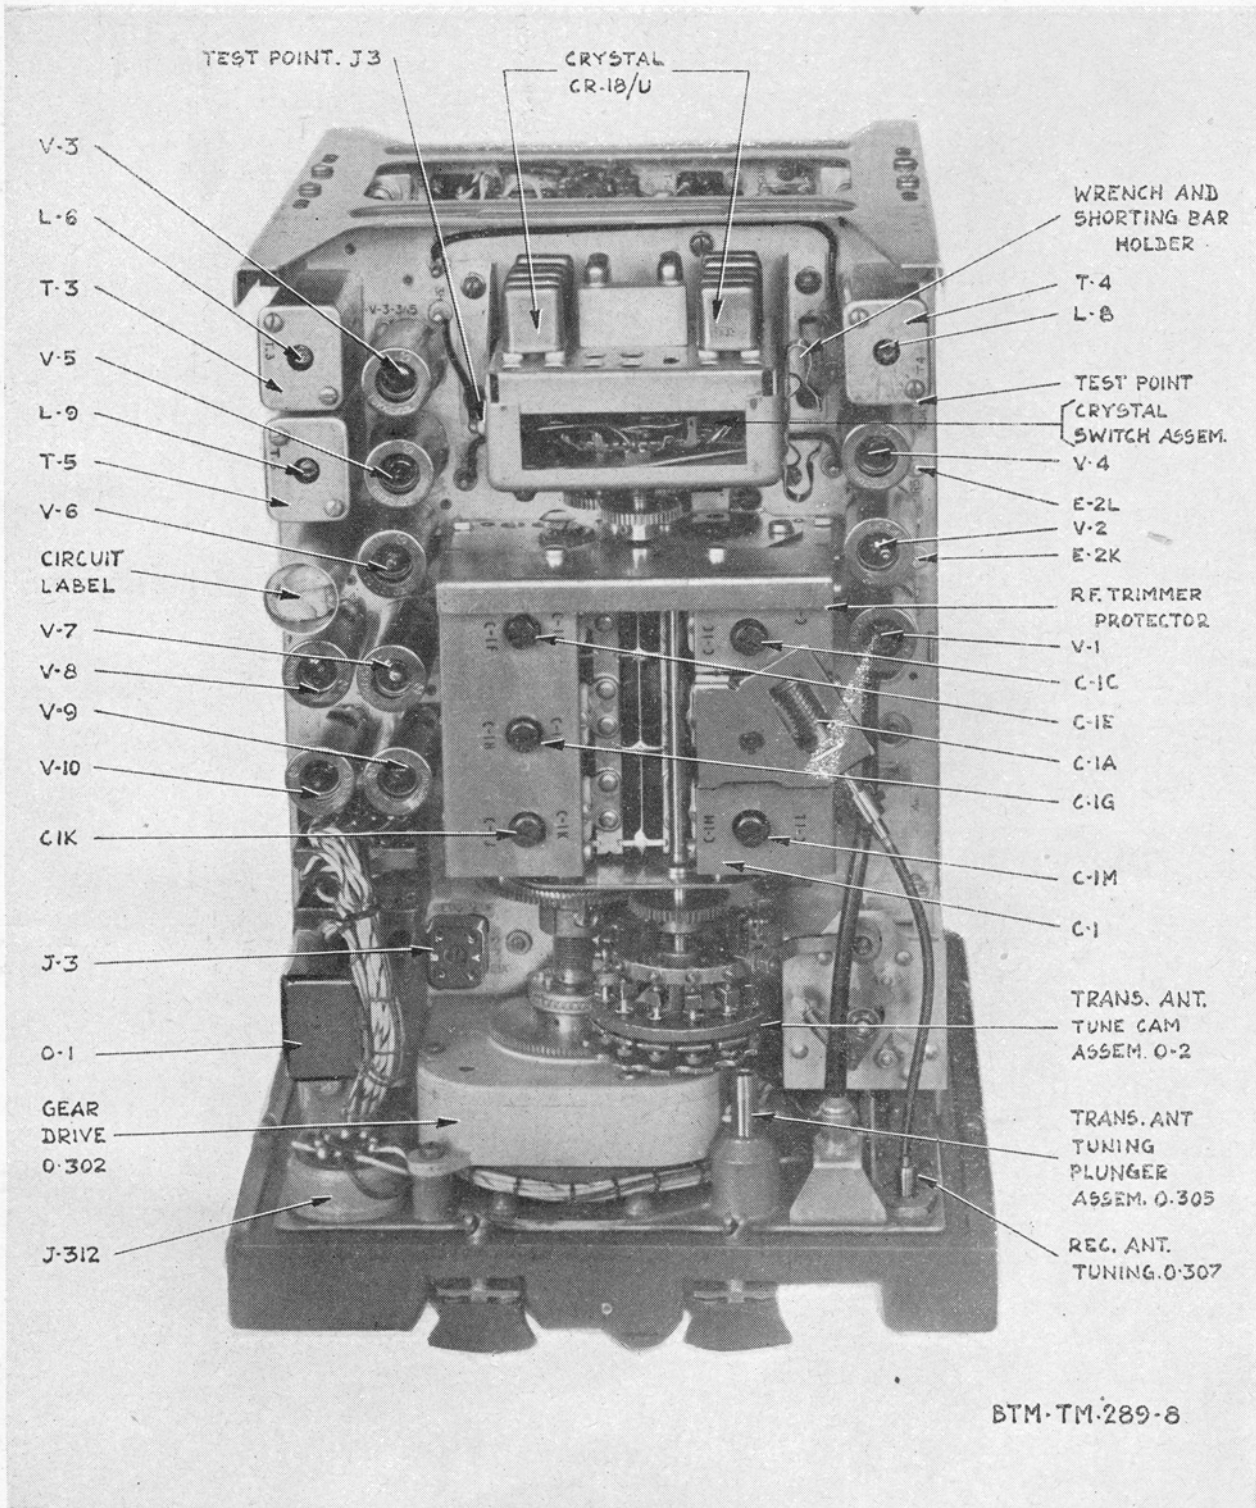

Figure 5. Typical receiver-transmitter, case removed, view of r-f chassis (left side of panel and chassis assembly).
- (2) The r-f chassis of the three receiver-transmitters are similar in structure and component arrangement. There are some differences, however, mainly in the inductances of the tuning coils and in the number of frequency-determining crystals required. Thus, these chassis are not interchangeable from one set to another. Figure 5 shows the component side of the r-f chassis. Also refer to figures 36, 37, and 38. The r-f chassis mounts the h-f components of both the receiver and the transmitter, the crystal oscillator-harmonic generator circuit components, including tuning capacitors, crystals, the crystal switch assembly, and associated parts. The worm gear assembly (fig. 5) is connected by means of a flexible coupling to the receiver antenna tuning control, marked REC ANT TUNE on the panel. The cam assembly is actuated by the main dial drive assembly to tune the transmitter antenna capacitor (TR ANT TUNE) as the dial assembly is rotated. This and other details of the dial drive mechanism and its functions are described in paragraph 13. The multiconnectors, J-4 and J-5 (fig. 36), are for connection to the front panel circuits. Toothed crown couplings on the shafts of the variable gang capacitors are arranged to mate and interlock with corresponding couplings on the dial drive mechanism on the front panel. These couplings are keyed to coordinate dial and variable capacitor settings.
- a. Allen wrenches No. 116 (#6), 332 (#10), 564 (#8) (fig. 5).
- d. Circuit label (fig. 5).